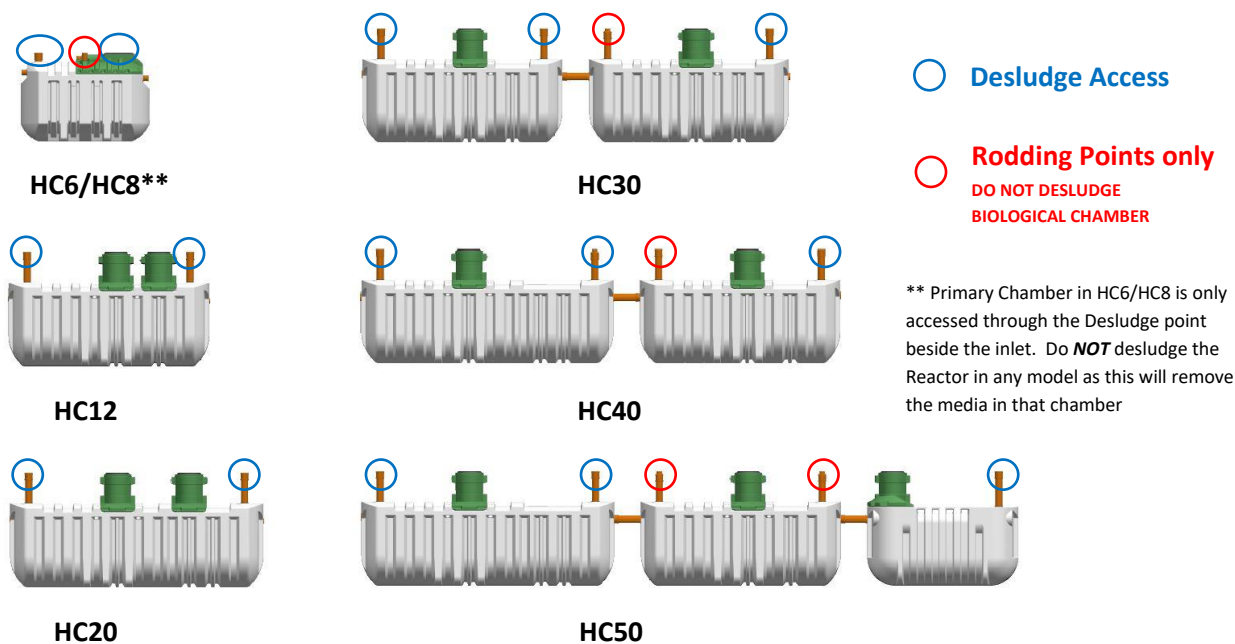

Figure 19: Desludge and Rodding Access points on HydroClear range
Please refer to Figure 19 below for the location of the desludge points. Harlequin recommends that during all desludge operations, the primary and final settlement chambers should both be emptied but it is possible to reduce the frequency of emptying the FST based on sludge levels. The primary settlement chamber should always be emptied first to avoid excess transfer of solids through the aeration chamber.
9. Please ensure that the Biological reactors are not desludged. Do NOT desludge through the Rodding Access points circled in red in Figure 19